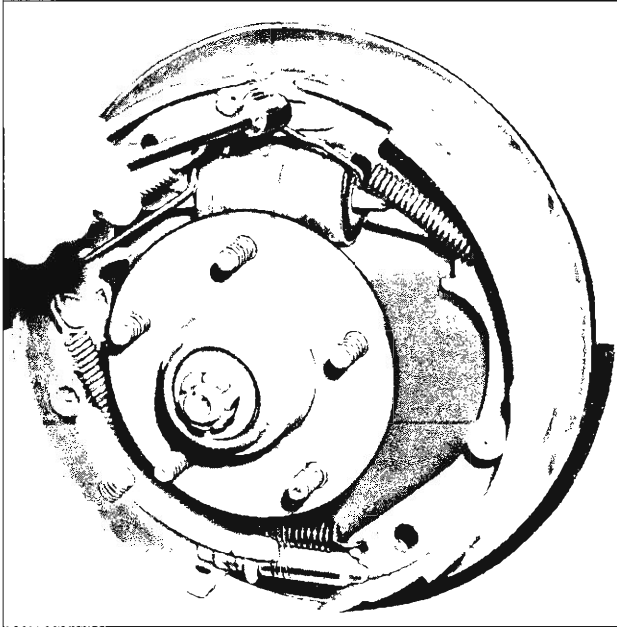

Fig. 18—Unhooking Pull Back Spring
4. Unhook brake shoe pull back springs from anchor pin and link end, using Tool J-8049 (fig. 18).